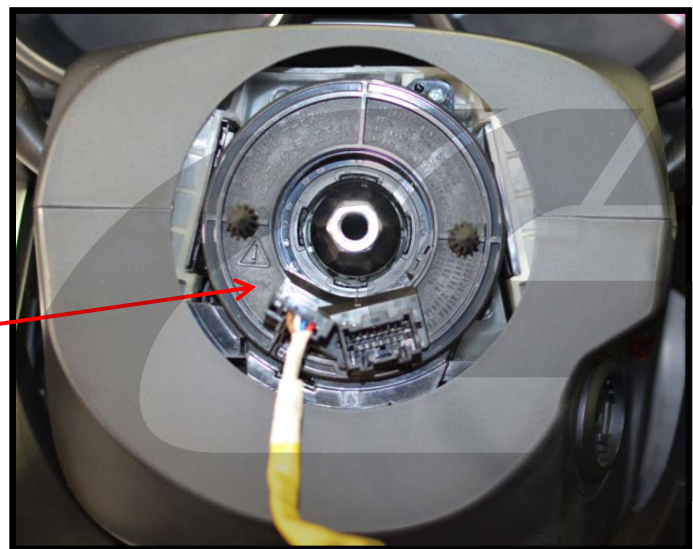

Figure 2b
- b) **Remove the steering wheel.** **Figure 2b** shows the results after removing the steering wheel.